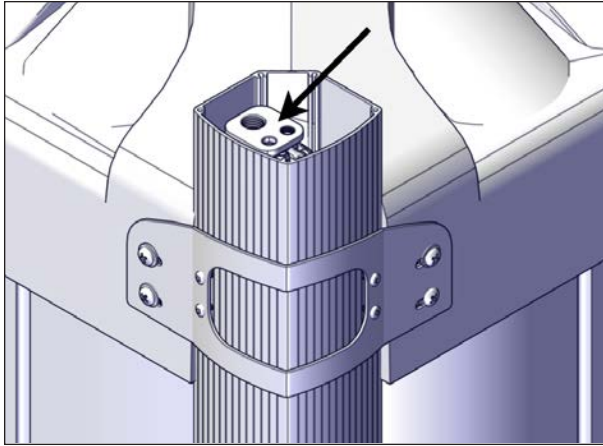

FIGURE 91: INTERNAL JACK
6. Raise the jacks with the key switch. The four internal jacks will raise but the cover panels should stay in place, see Figure 91.